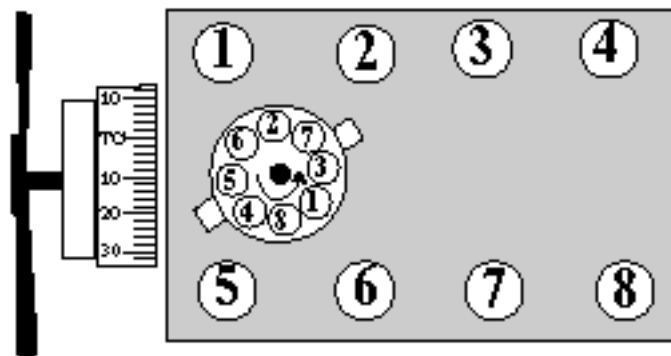

Figure 2
1. For cylinder numbering and firing order, see Figure 2.